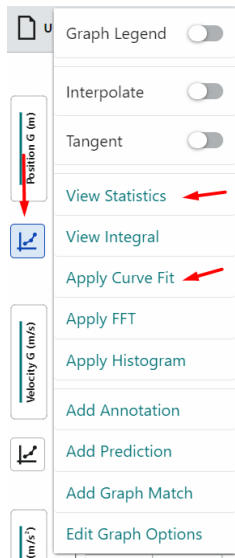
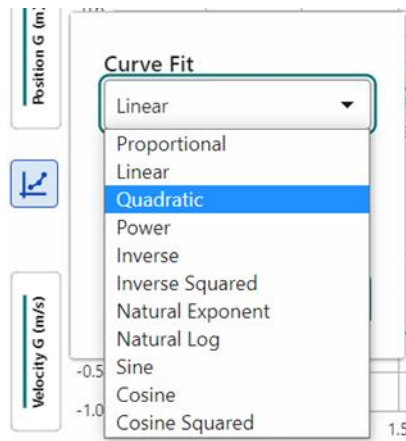

Figure 4
Figure 5
- b. Click *Curve Fit*  (Figure 4), select Quadratic fit from the list of models (Figure 5), and click *Apply*.
4. The graph of acceleration vs. time should appear approximately constant during the freely-rolling segment. Click and drag the mouse across the free-rolling portion of the motion and click *Statistics*  (Figure 4). Compare the mean acceleration value with the values of a found in steps 2 and 3.